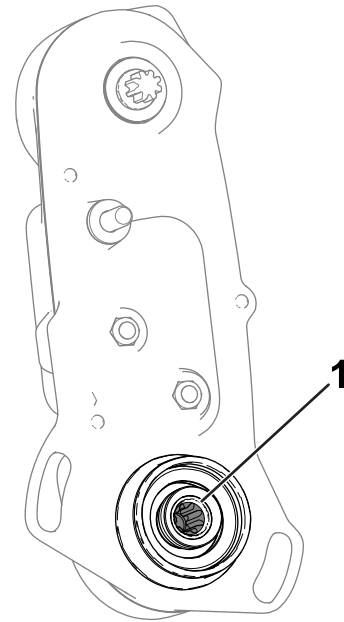

Figure 13
3. Check the inside of the reel driveshaft (Figure 13) for any remaining grease.